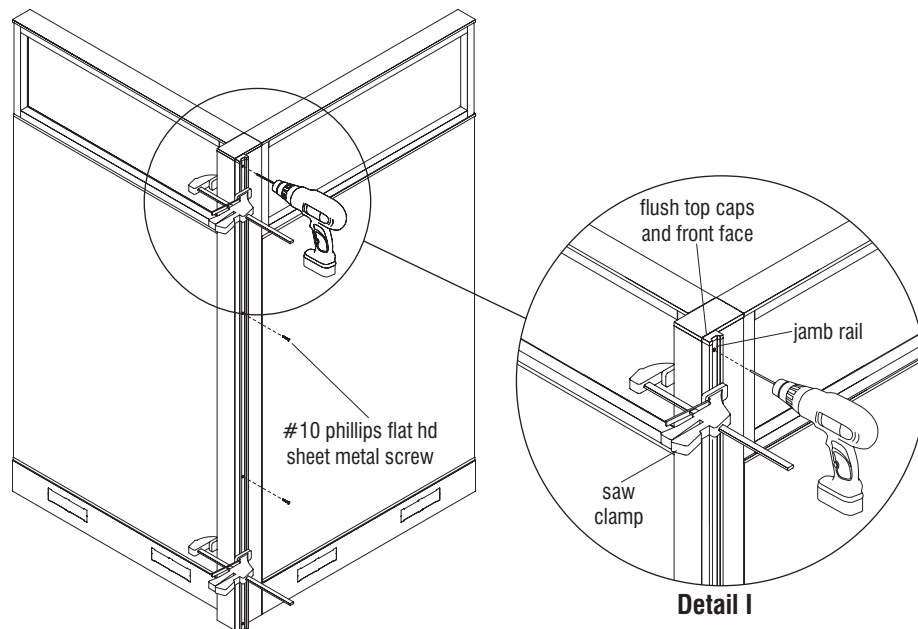

Figure 15
3. While the jamb rail is clamped securely and straight, use a  $\frac{1}{8}$ " drill bit and bore holes through the jamb post using each of the four jamb rail holes as guides for drilling (Figure 15).
4. Install four #10 Phillips flat head sheet metal screws to secure the jamb rail to the jamb post. Do not over-tighten screws (Figure 15).